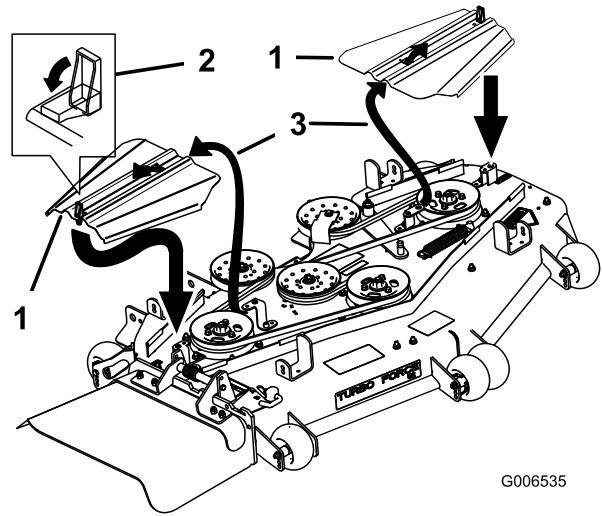

Figure 58
12. Install the belt covers by sliding the cover into the tab, install the bolts, and close the latches (Figure 58).